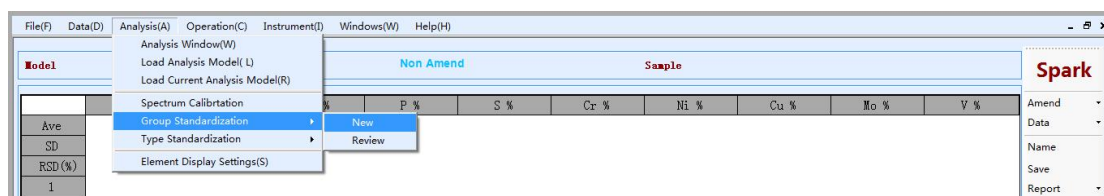

Figure 4-16 Group Standardization
Step 1 Click "Analysis"->"Group Standardization"->"New" in menu bar of the software, as shown in Figure 4-16: